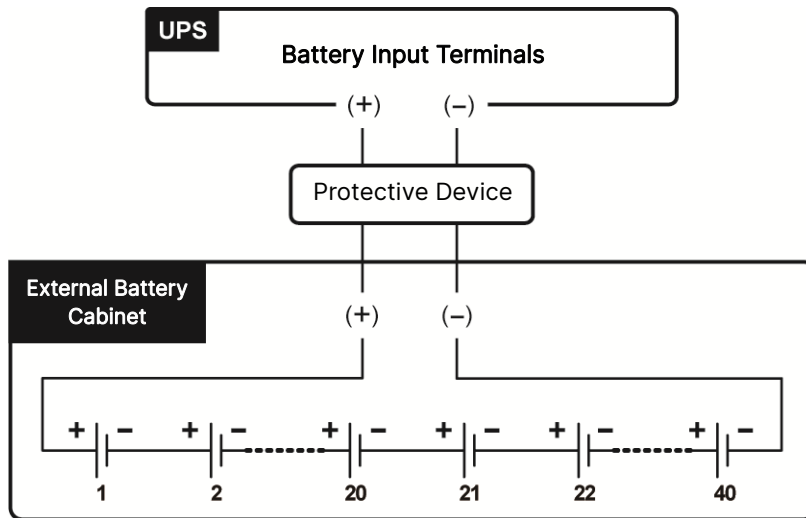

Figure 5-18: External Battery Cabinet Connection
- To connect the external battery cabinet(s) to the UPS, please refer to **5.4 Wiring** and **Figure 5-18**.